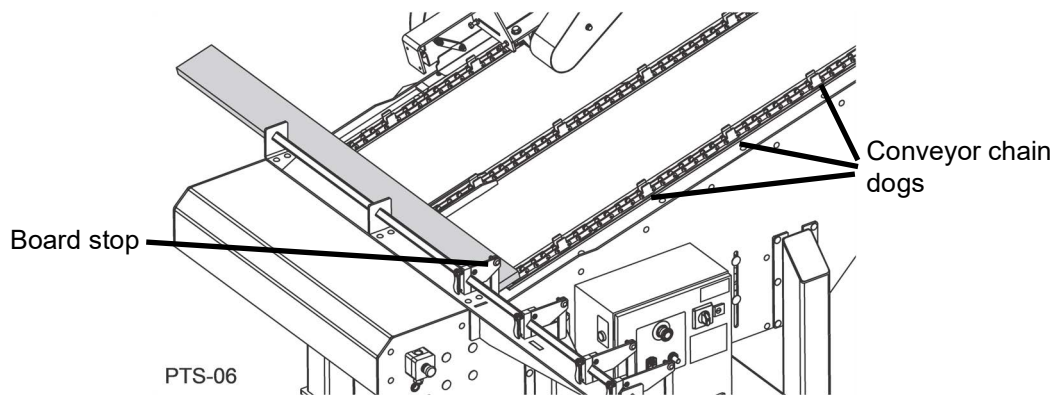

FIG. 3-7
6. Set the board flat against the table until the conveyor chain dogs catch the board. See Fig. 3-7.